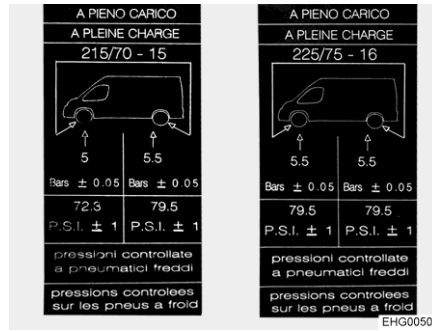

Fig. 124 Tyre pressure information sticker on B column (example)
- ▷ Information stickers with the required tyre pressure are attached to the inside of the B column (see Fig. 124).